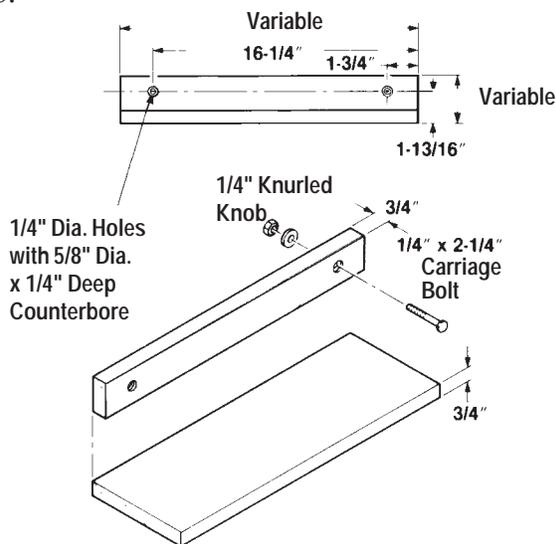

Figure D-28
2. If you're going to drill through the stock, protect the table and the rip fence with scrap wood. If you perform this operation often, you may want to make a V-support by gluing two scrap boards together, then bolt one side of the support to the rip fence. See Figure D-28.